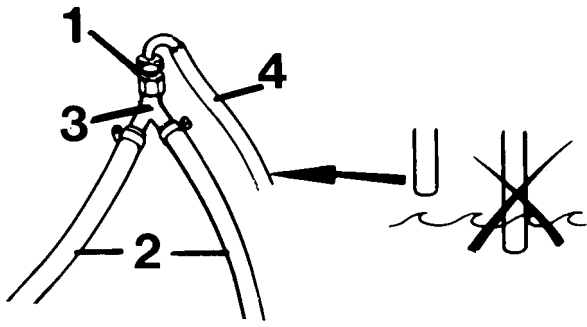

Fig. 1
Connect water hose in requisite length (2 fig. 1) from the branch piece (3) to the respective connection on the engine. Lock with double rustproof hose clips at each connection point (4 pcs included in set). NOTE! The hoses must be routed in gentle curves so that they are not pressed together or kinked and the water flow restricted. If the hose is drawn through a bulkhead, then a protective rubber ring or similar must be fitted.
The hose (4 fig 1) at the upper section of the valve must be routed without bending and so that no damage is caused by any water that may drip. (Max length 0.5 m, 20".)